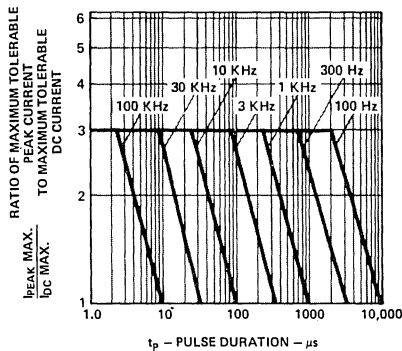

Figure 2. Maximum Tolerable Peak Current vs. Pulse Duration. (IDC MAX as per MAX Ratings.)
1. See Figure 2 to establish pulsed operating conditions.